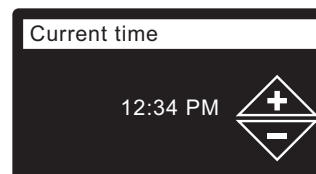

FIG. 21
19. **CURRENT TIME** Press the DOWN (▼) or UP (▲) buttons to set the current time (See Figure 21). Hold the button down to rapidly advance. Be sure that AM or PM is correct. If the system units were set to metric in Step 17, the clock will be in 24-hour format.
20. Press the SELECT (O) button.